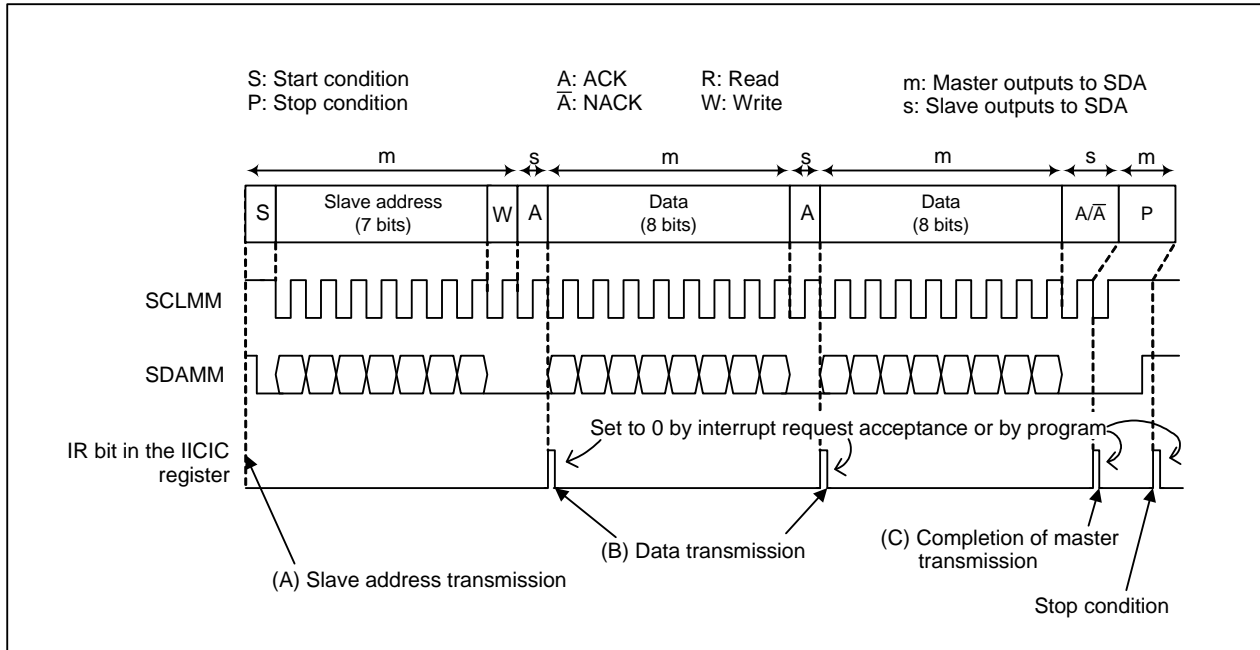

Figure 25.17 Example of Master Transmission
Master transmission is described in this section. The initial settings described in 25.3.10.1 "Initial Settings" are assumed to be completed. Figure 21.17 shows master transmission operation. The following programs (A) to (C) are executed at (A) to (C) in Figure 25.17, respectively.